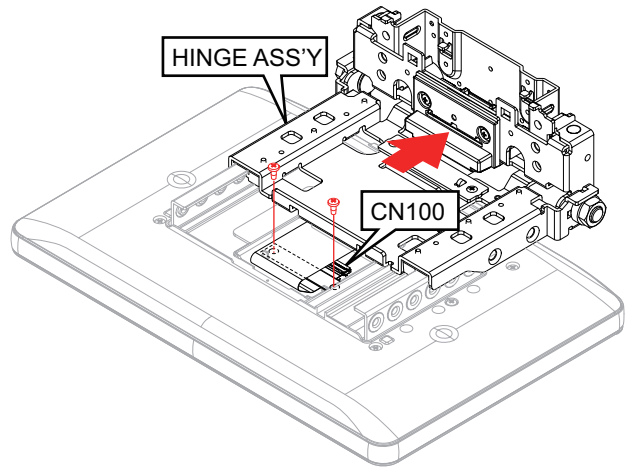

Fig.4
- (4) Slide the HINGE ASS'Y halfway in the direction of the arrow. (See Fig.4)
- (5) Remove the 2 screws, and remove the FPC from the connectors. (See Fig.4)